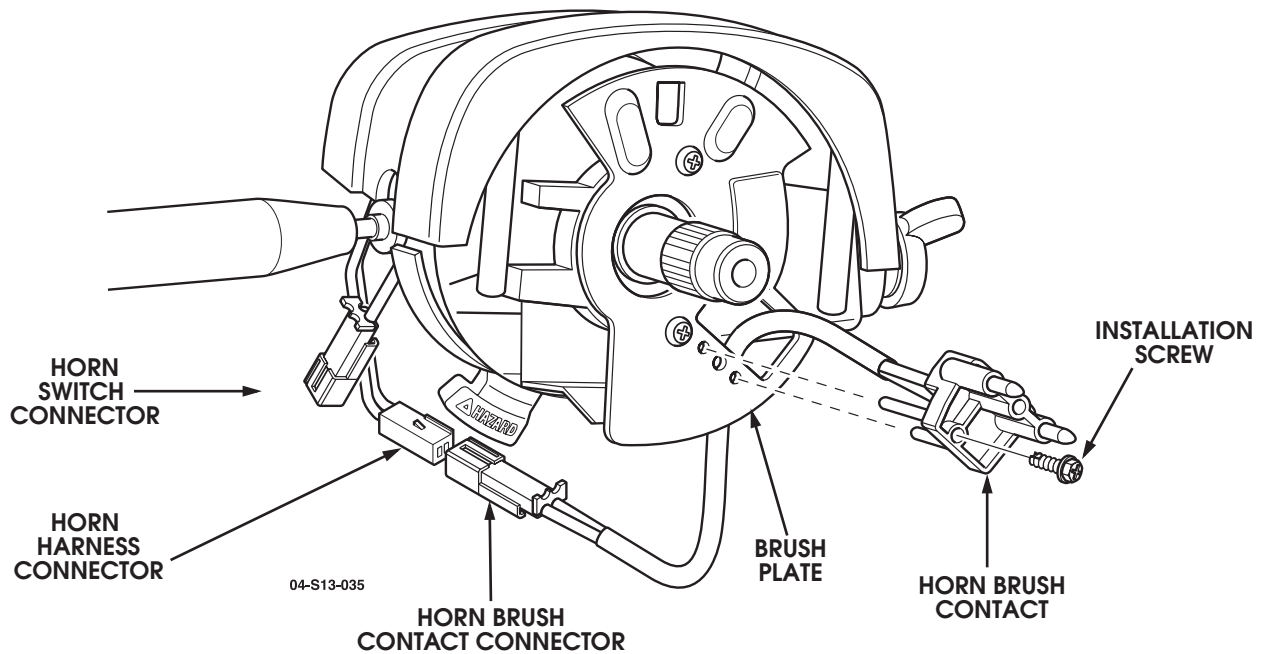

Figure 2: Steering column.
5. Disconnect the original horn switch (turn signal stalk) connector from the horn harness (See Figure 2).